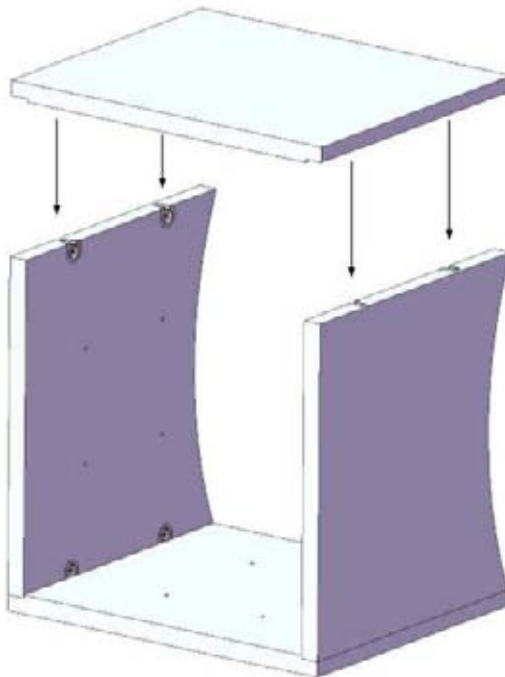

Figure 4
4. Locate the emblem panel and align the connector studs with the CAM fittings on the side panels. Tighten all the CAM fittings around the connector studs as done in the previous steps (**Figure 4**).